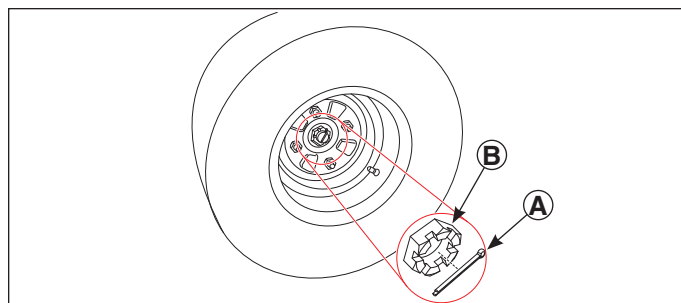
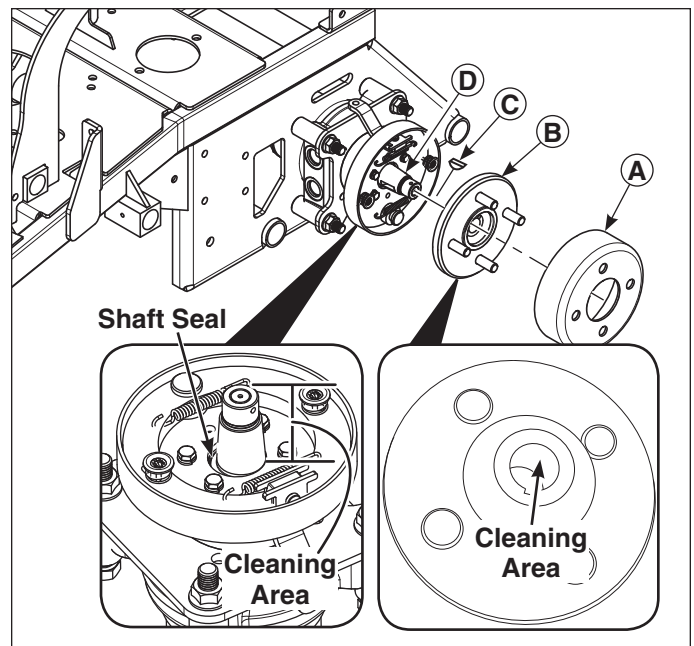

Figure 2. Cotter Pin and Castellated Nut
Figure 7. Cleaning the Brake Hub and Tapered Shaft
5. Remove the cotter pin (A, Figure 2) and the castellated nut (B). Discard the cotter pin and retain the castellated nut.
15. See Figure 7. Clean the wheel motor tapered axle shaft (D, Figure 7) and threads with brake cleaner using care not to contact the wheel motor shaft seal or to contaminate the brake shoes. Wipe the wheel motor tapered axle shaft dry with a clean towel.
18. Ensure that the axle shaft key (C, Figure 7) remains in the axle. Reinstall the wheel hub (B) onto the wheel motor tapered axle shaft, making sure the axle key lines up with the slot in the wheel hub.
19. Reinstall the brake drum (A) and engage the parking brake.
20. Install the castellated nut (B, Figure 2) on the wheel motor tapered axle shaft. **Torque the castellated nut to 115 ft/lbs (156 Nm).** If necessary, a bar can be used to prevent the wheel motor axle shaft from turning while you are tightening the castellated nut.